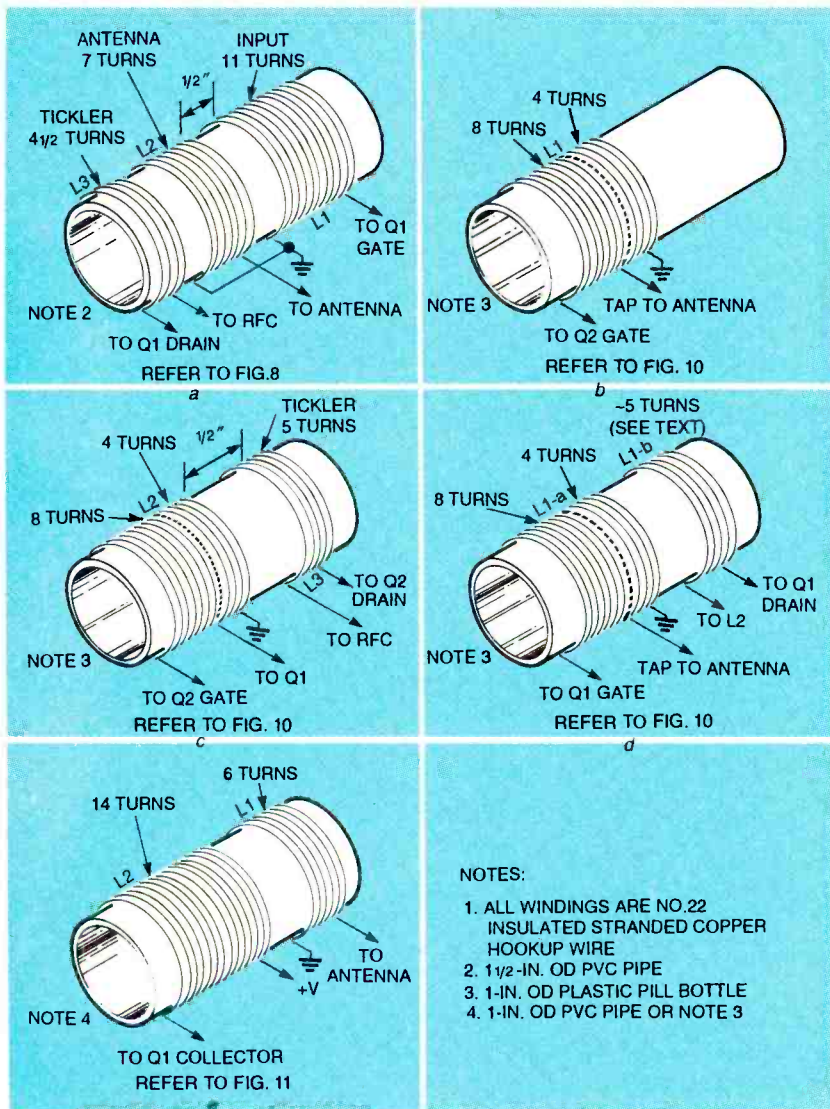

FIG. 9—COIL-WINDING DIAGRAMS for the four regenerative receivers.
5. FOR COIL-WINDING DIRECTIONS SEE FIG. 9-a
The optimum number of turns on the tickler winding for a smooth transition into oscillation was found by trial and error. Coil-winding information is given in Fig. 9-a. (Figure 9 contains all the coil winding data needed to build the circuits described in this article). Too many turns will cause the circuit to break into free oscillation, making receiver tuning difficult; too few will restrict positive feedback, and receiver